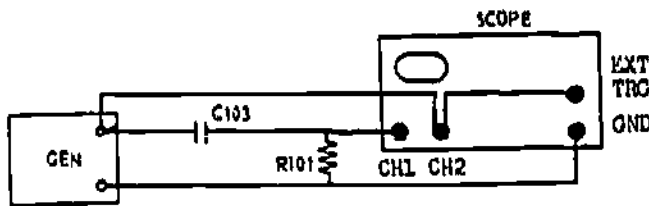

Figure 1-1
10. Using the trainer, construct the circuit shown in figure 1-1.